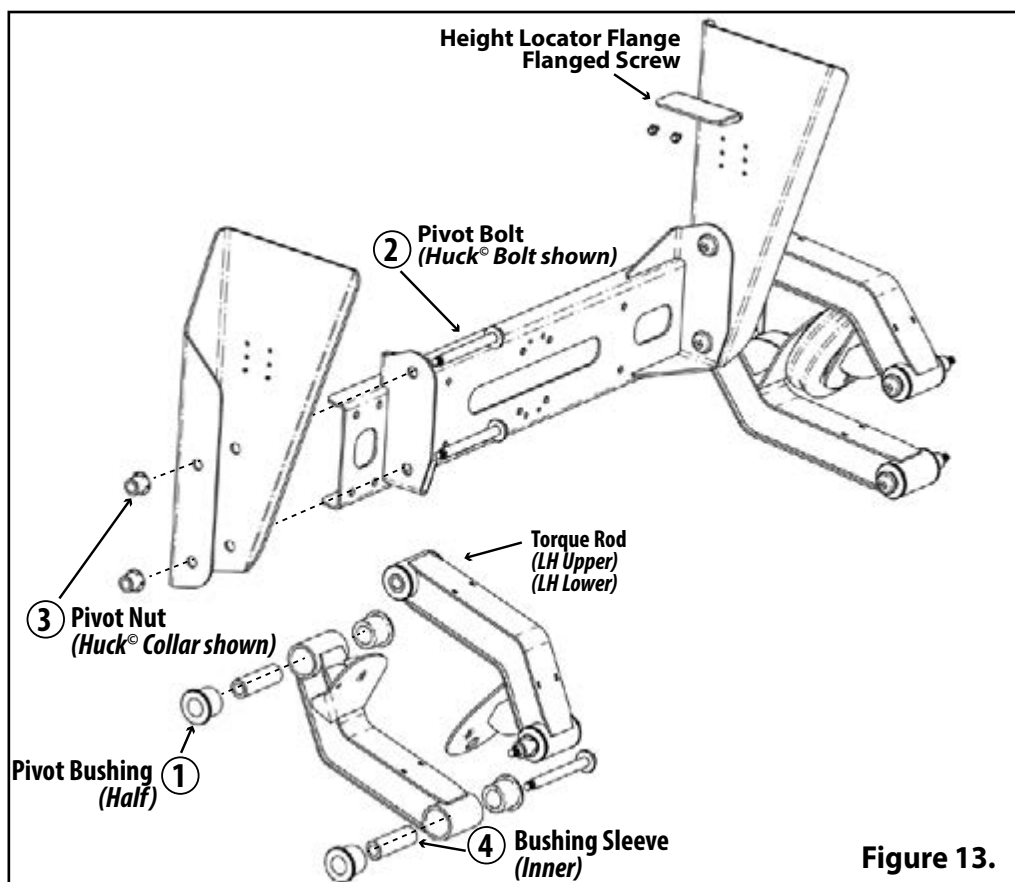

Figure 13.
1. Remove pivot bolt by cutting away Huck® Collar. Discard pivot bolt (Fig 13).